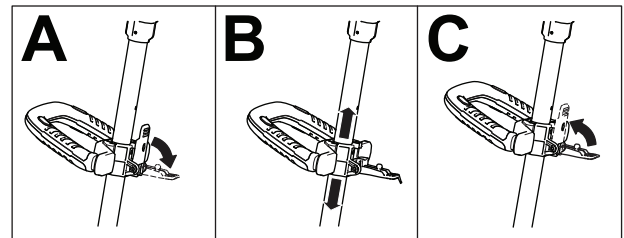

Figure 15
1. Release the auxiliary-handle latch (A of Figure 15).
2. Slide the auxiliary handle up or down to your desired height (B of Figure 15).
3. Close the auxiliary-handle latch to secure the auxiliary handle in place (C of Figure 15).